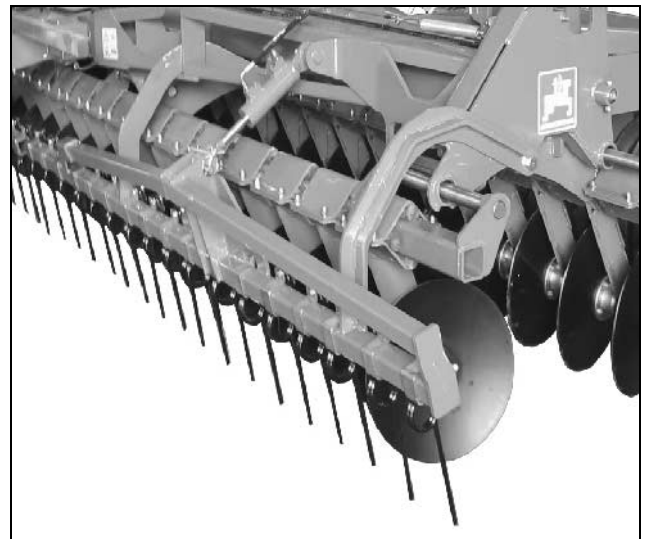

Fig. 39
- Lower the straw following harrow (Fig. 39). The straw in front of the straw following harrow will be caught.